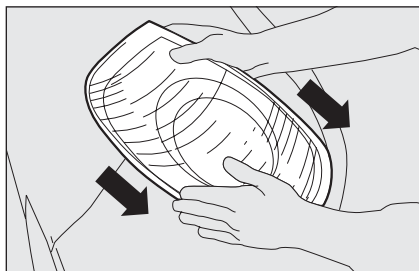

fig. 28
- remove the light unit with both hands as shown by the arrows in **fig. 28**;